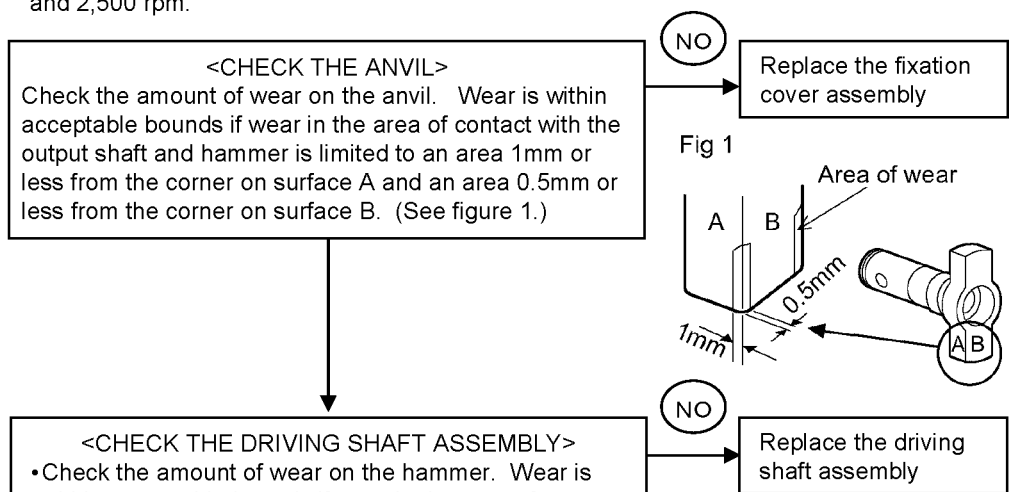

Fig 1
3. Attach the anvil to the driving shaft assembly as shown in Figure 1.